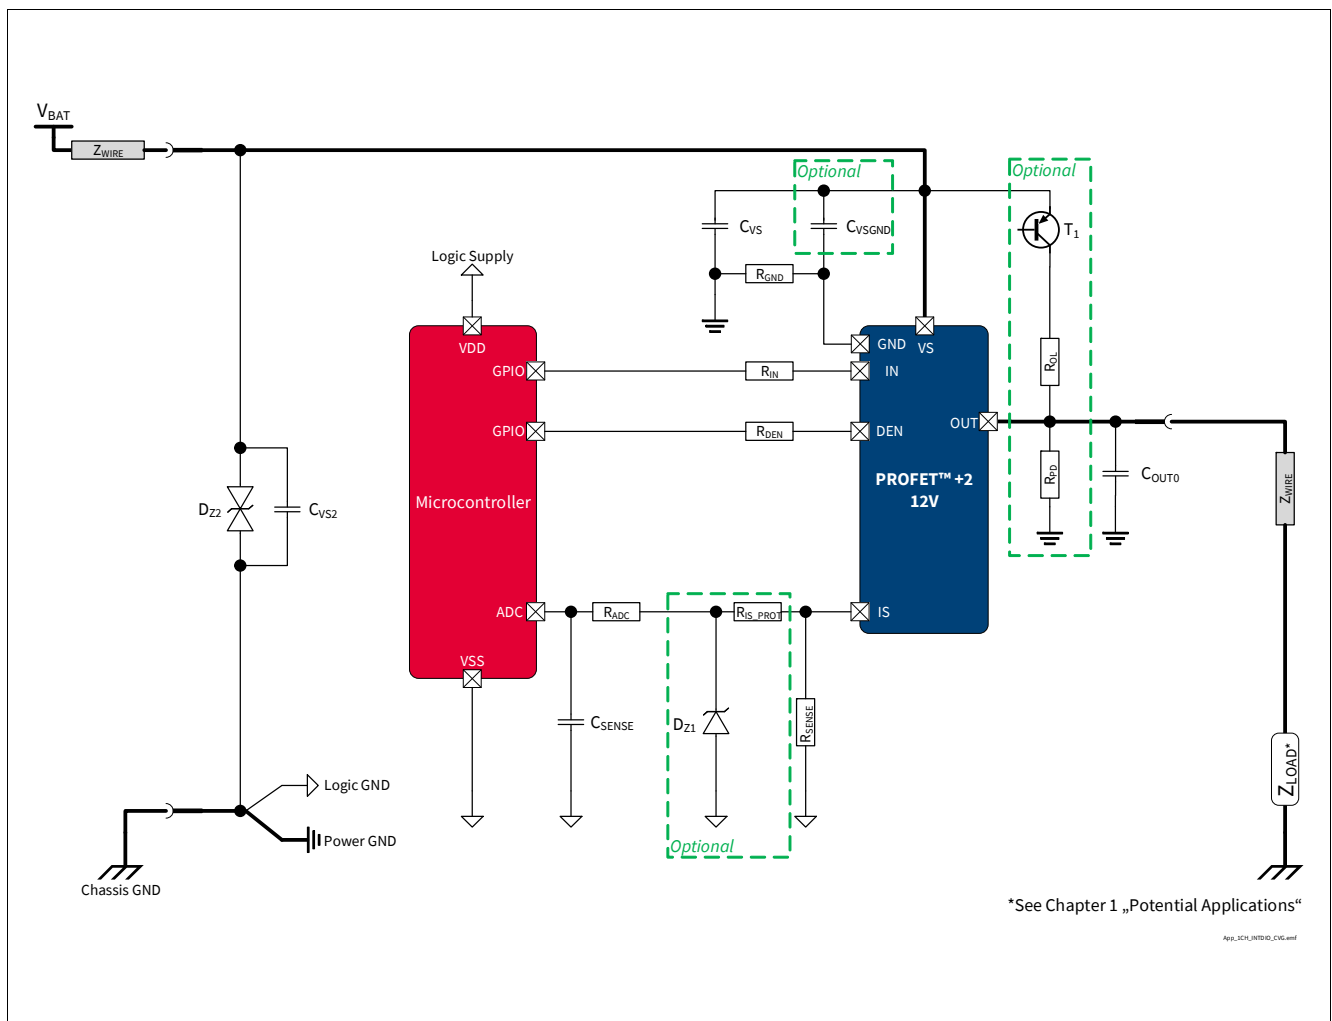

Figure 37 BTS7002-1EPP Application Diagram
1.10, 2020-12-14	<p>Typo fixed (PROFET™+2 → PROFET™ +2)</p> <p>Figure 1, Figure 16, Figure 17, Figure 18, Figure 20, Figure 21, Figure 22, Figure 25, Figure 29, Figure 30, Figure 34, Figure 37 updated</p> <p>Chapter 1, Chapter 6.1, Chapter 6.1.3, Chapter 6.1.4, Chapter 8.2, Chapter 9.2.2 updated</p> <p>Chapter 8.4.1 updated (typo fixed)</p> <p>P_7.4.5.1, P_7.4.5.2, P_7.4.5.3, P_7.4.5.4, P_7.4.5.6, P_7.4.5.7 updated (added in Note or Test Condition: See Figure 15)</p> <p>P_8.6.4.1 updated (added in Note or Test Condition: See Figure 26)</p> <p>P_8.6.4.2 updated (added in Note or Test Condition: See Figure 27)</p> <p>P_9.6.0.6 updated (Parameter: SENSE Operative Range for k_{ILIS} Operation ($V_S - V_{IS}$) → Saturation Voltage in k_{ILIS} Operation ($V_S - V_{IS}$))</p> <p>P_9.6.0.7 updated (Parameter: SENSE Operative Range for Open Load at OFF Diagnosis ($V_S - V_{IS}$) → Saturation Voltage in Open Load at OFF Diagnosis ($V_S - V_{IS}$))</p> <p>P_9.6.0.8 updated (Parameter: SENSE Operative Range for Fault Diagnosis ($V_S - V_{IS}$) → Saturation Voltage in Fault Diagnosis ($V_S - V_{IS}$))</p>
1.04, 2019-10-15	<p>P_6.5.20.1 updated (Typ.: 0.01 μA → 0.1 μA)</p> <p>P_8.7.10.1, P_8.7.10.7, P_8.7.10.8 updated (added in Note or Test Condition: link to Figure 24)</p> <p>P_7.5.10.5 updated (added in Note or Test Condition: see Figure 18)</p> <p>P_7.5.10.12 updated (added in Note or Test Condition: see Figure 20; deleted unnecessary space in Symbol: dV_{OUT} / dt → dV_{OUT} / dt)</p> <p>P_8.7.10.6 updated (added in Note or Test Condition: see Figure 25)</p> <p>P_9.7.10.1 updated (added in Note or Test Condition: see Figure 32)</p> <p>Figure 1, Figure 37 updated</p> <p>P_4.3.0.7 added</p> <p>Table 22 updated</p> <p>Chapter 5.1 updated (added: see Chapter 10 for the complete application setup overview)</p> <p>Chapter 9.2 updated (2 V → $V_{DS(OLOFF)}$)</p> <p>General: updated (ReverSave™ → ReverseON)</p>
<p>1.01, 2018-06-14</p>	<p>Page numbering corrected Figure Application Diagram, Figure 29, Figure 37 updated</p>